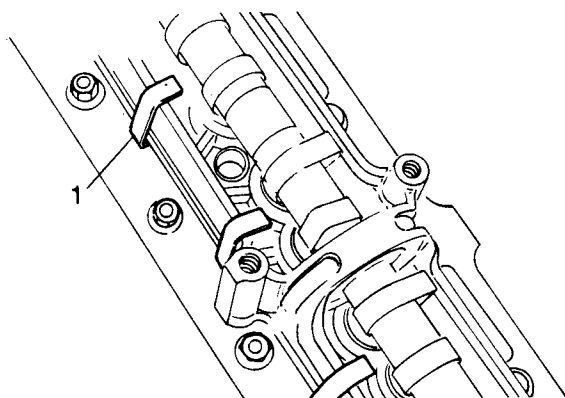

Fig B4.45
- (6) Refer to Fig B4.45. If the tappet retaining clips (1) are fitted, remove them at this stage.